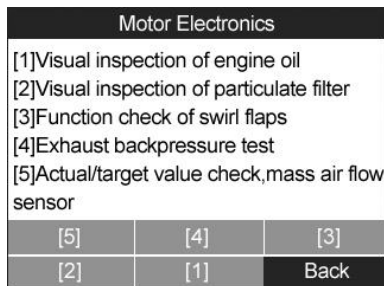

Figure 11.29
- a) From the particle filter test menu (Figure 11.29) use the **LEFT/RIGHT** scroll button to select **【1】** and press the **OK** button.
- a) From the particle filter test menu (Figure 11.29) use the **LEFT/RIGHT** scroll button to select **【2】** and press the **OK** button.
- a) From the particle filter test menu (Figure 11.29) use the **LEFT/RIGHT** scroll button to select **[3]** and press the **OK** button.
- a) From the particle filter test menu (Figure 11.29) use the **LEFT/RIGHT** scroll button to select **[4]** and press the **OK** button.
- a) From the particle filter test menu (Figure 11.29) use the **LEFT/RIGHT** scroll button to select **【5】** and press the **OK** button.